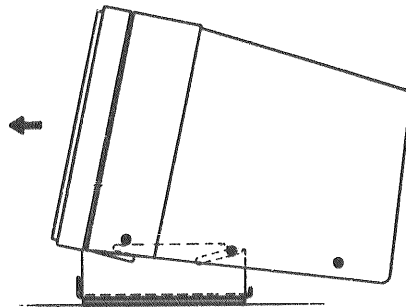

FIGURE 2-8. Display Unit Installation Step 2
- c. Insert display unit onto tilt/swivel brackets and slide display unit forward as shown in Figure 2-8.